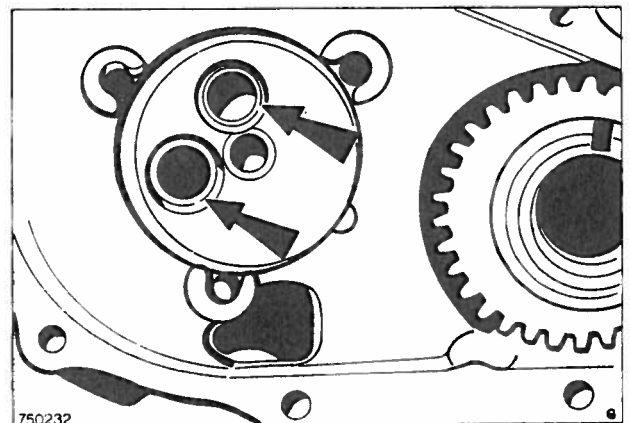

Fig. 4 Location of Oil Pump Gallery Seals
7. Remove the three bolts retaining the oil pump assembly and withdraw the pump and gear from its housing. Remove the two rubber seals from the oil galleries, Fig. 4.